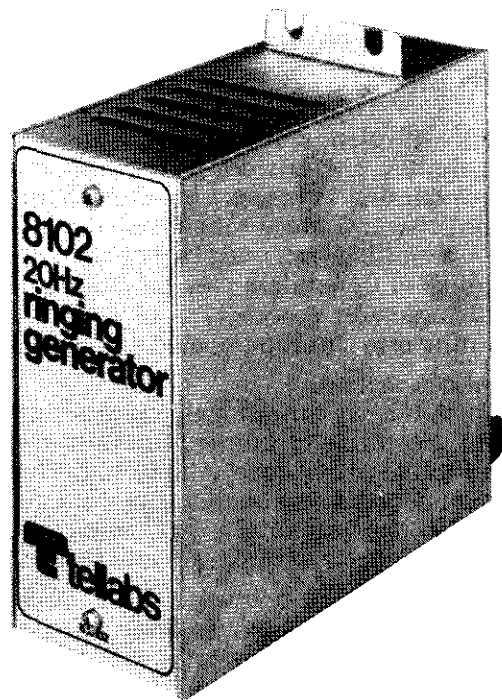

figure 1. 8102 Ringing Generator
1.01 The 8102 Ringing Generator, figure 1, is a 20Hz ringing source in a mounting case suitable for key telephone unit (ktu) applications. The 8102 operates from either a 24Vdc or 48Vdc input and provides a nominal 100Vac, 20Hz sine wave output. The output will operate up to five standard telephone ringers simultaneously.